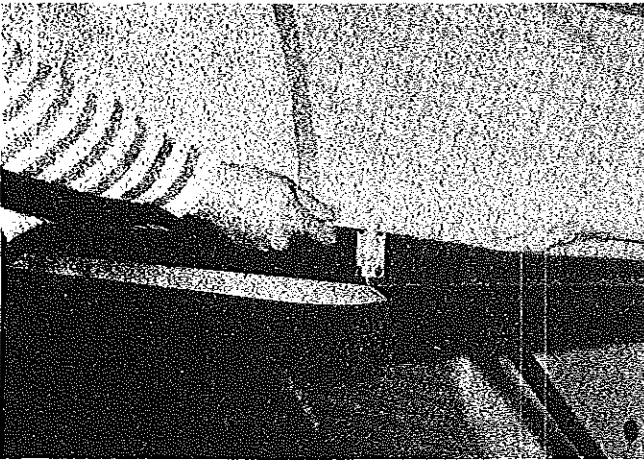

FIGURE 17
21. Pull the tent at the bottom over the bed edge and attach the exposed stretch cords to the nearest hooks on the underside of the bed. Repeat for other bed end. See Figures 17 and 18.